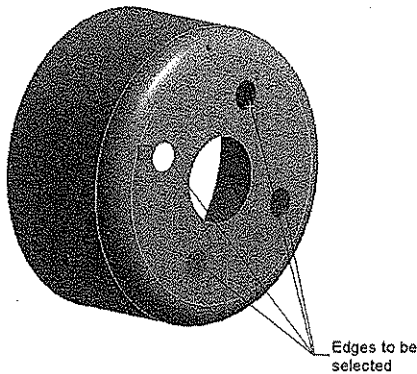

Figure 10-46 Edges of the bolt holes selected for applying Fixed support
5. Select the edges of the holes provided for Fixed supports, as shown in Figure 10-46.